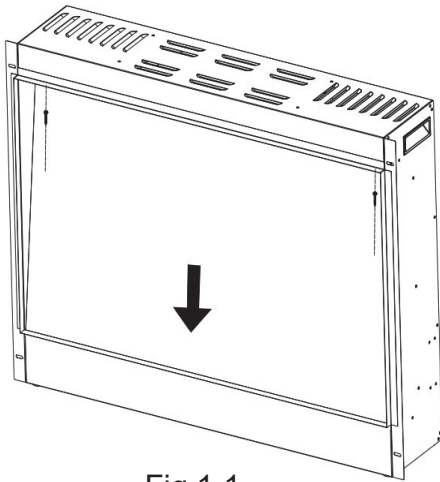

Fig.1-1
1. Take off all screws from the top the glass panel. Fig.1-1